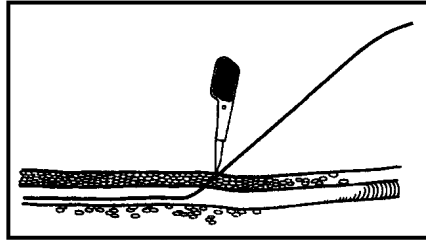

Figure 3-23
- (h) Make a small stab incision that is just smaller than the diameter of the dilator in the anesthetized skin, using a #11 scalpel blade, slide the dilator included in the kit over the guide wire, and advance it to the skin. (See Figure 3-23.)